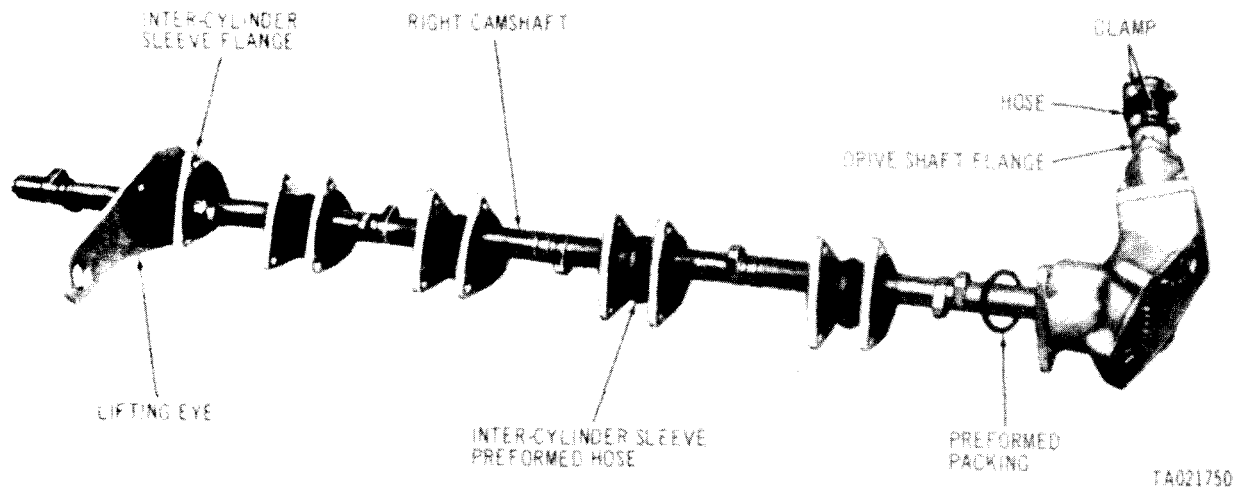

Figure 3-256. Removing or installing lifting eye, intercylinder base flange, and hoses, model AVDS-1790-2C and AVDS-1790-2 D engine.
a. Remove lifting eye (fig. 3-256), preformed hose and intercylinder hose flange, and separate the lifting eye and flange from hose.